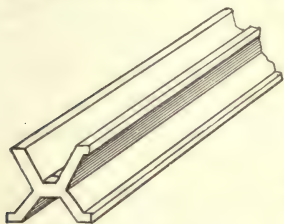

FIG. 1. — The international meter.
7. Meter and yard. The meter is the distance between two lines on a metal bar (Fig. 1) which is preserved in the vaults of the International Bureau of Weights and Measures near Paris.*